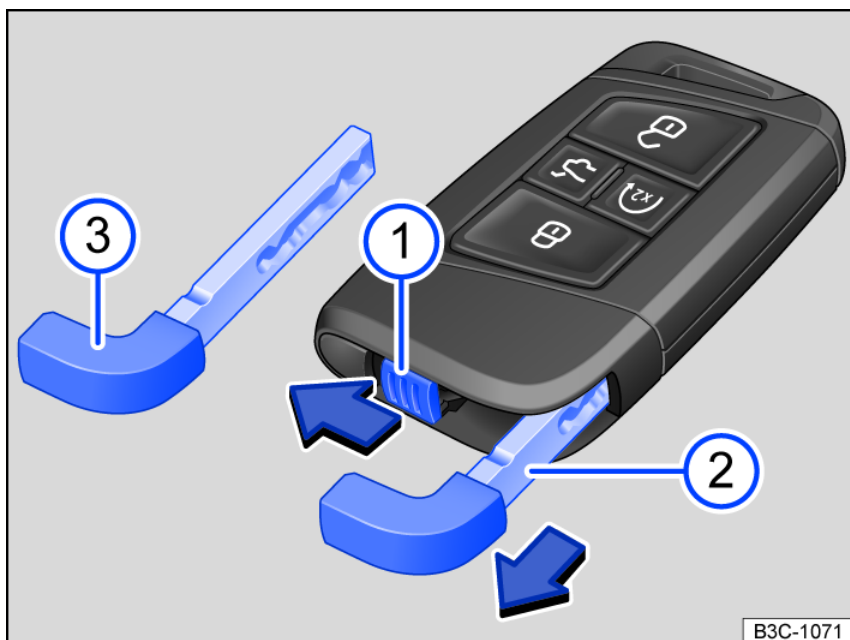

Fig. 51 Vehicle key: releasing the emergency key.
- ① Push the locking mechanism in the direction of the arrow.
- ② Remove the emergency key in the direction of the arrow.
- ③ Emergency key.
There is an emergency key fig. 51 ③ located in the vehicle key that can be used to manually unlock and lock the vehicle.